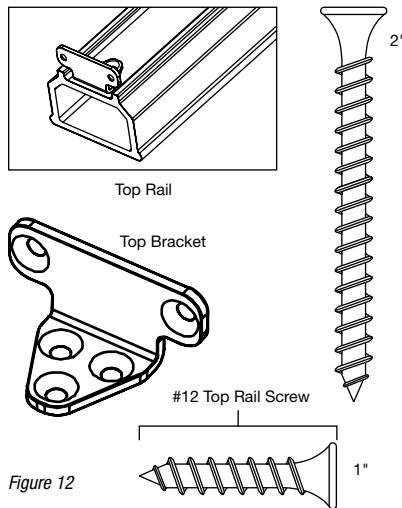

Figure 12
7. Center the top bracket on the underside of the top rail (Figure 12). Inset the top bracket 1/16" from the end of the rail. Mark the three hole locations on the rail. Pre-drill 5/32" holes at the desired locations. Repeat for opposite end.